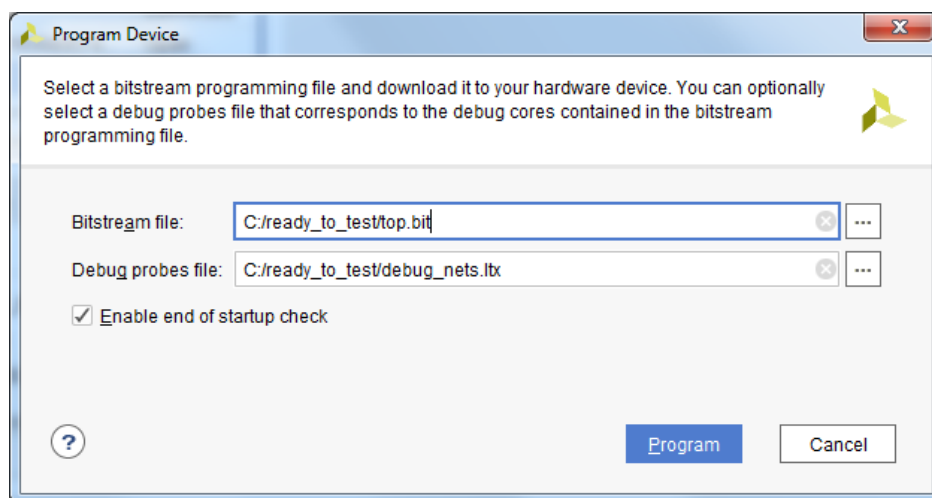

Figure 15: Program Device Window
8. Browse to the location of the `top.bit` and `debug_nets.ltx` files and click **Program** as shown in Figure 15.